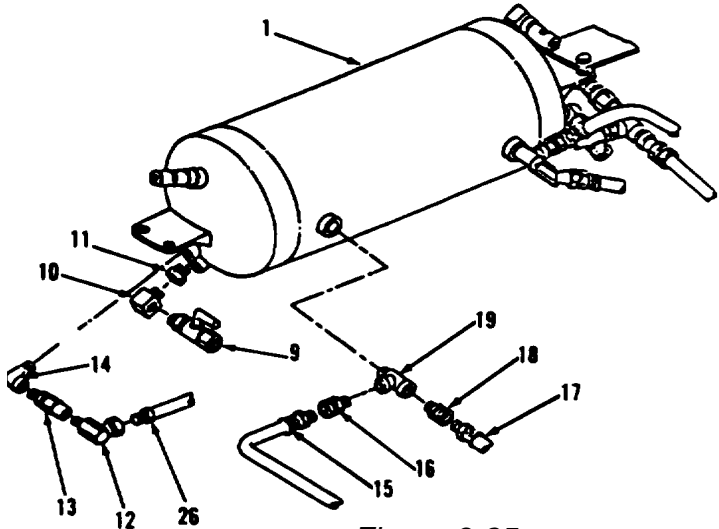

Figure 6-25.
- 2. Support reservoir (1). Weight of reservoir (1) is approximately 21 lbs.
- 3. Remove four nuts (2), washers (3 and 4), bolts (5), washers (6), grommets (7) and washers (8).
- 4. Remove drain cock (9), fitting (10) and bushing (11) from reservoir (1, Figure 6-25) from under rear of vehicle.